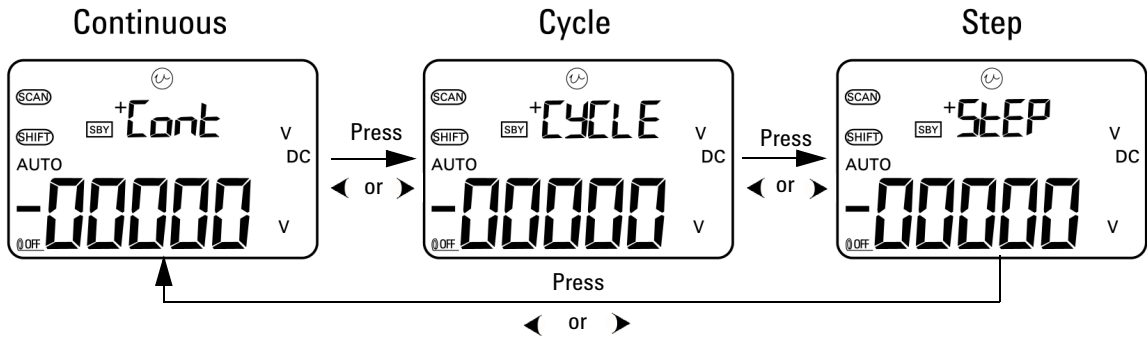

Figure 2-1 Selecting autoscan output mode
- 4 After selecting the required **SCAN** function, press **◀** or **▶** to select one of three modes: Continuous, Cycle, or Step. The secondary display will indicate **Cont**, **CyCLE**, or **StEP** respectively (Figure 2-1 on page 34).